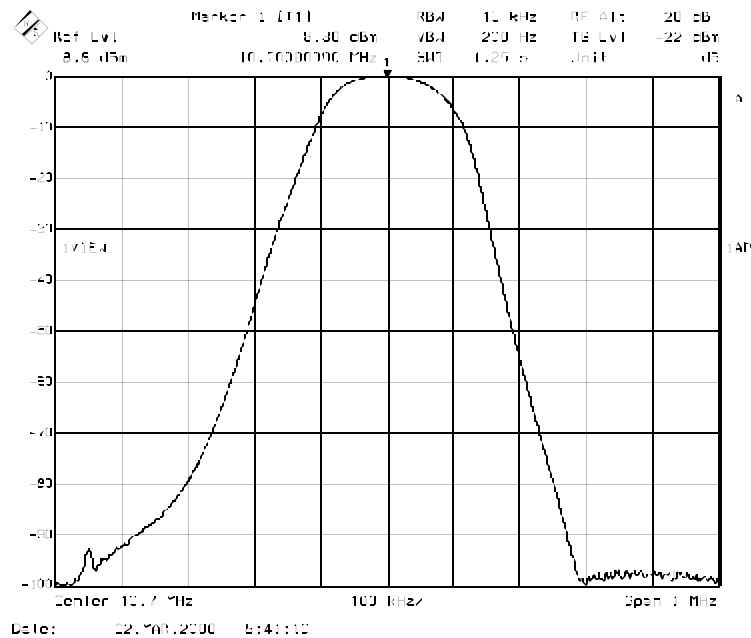

Fig. 20 FM IF1 Selectivity
* **The first IF selectivity** at 10.7MHz has two ceramic filters (180kHz bandwidth, so no special attention on group delay character or on centre frequency tolerance is required). They realize $S_{200} = >45\text{dB}$, see curve Fig. 20.